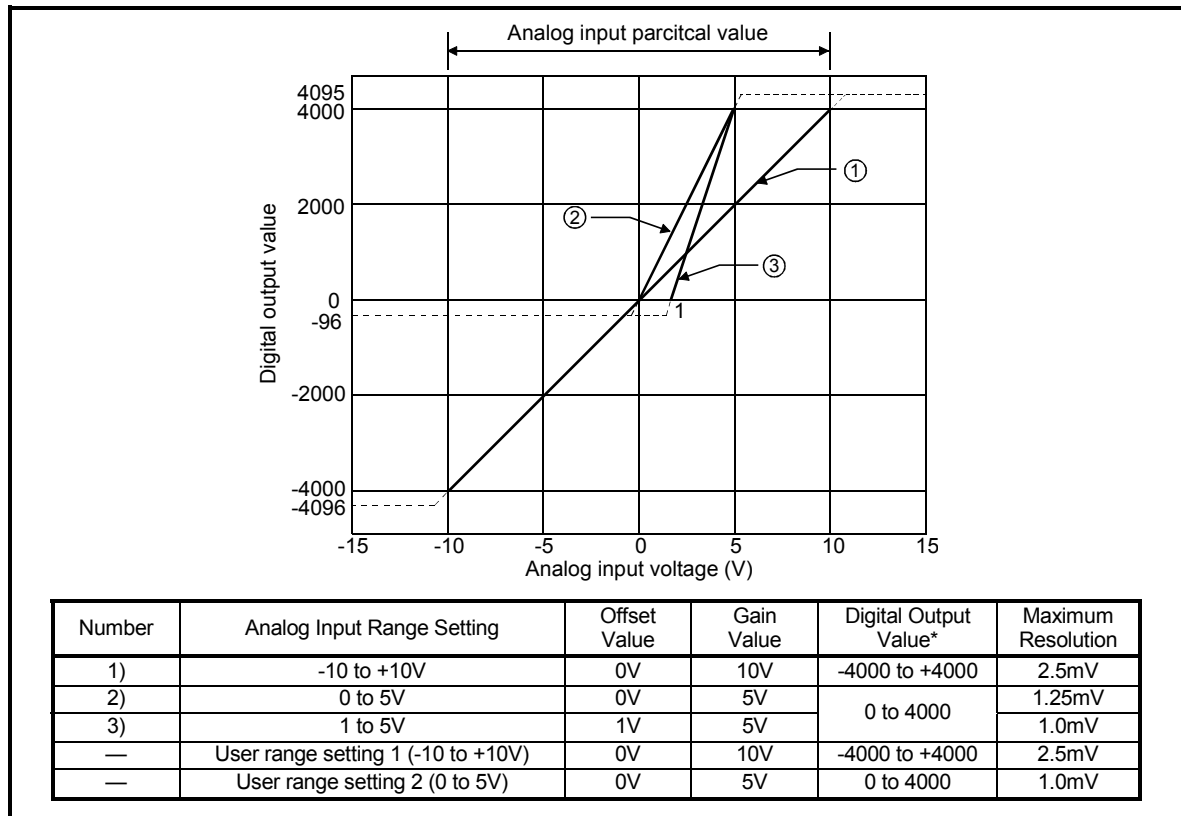

Fig. 3.1 Voltage Input Characteristic
- (1) Do not input more than $\pm 15V$. The element may be damaged.
- (2) If the analog input provided corresponds to the digital output value* beyond its range, the digital output value is fixed to the maximum or minimum.
- (3) Within the analog input and digital output scopes of each input range, the maximum resolution and accuracy are within the performance specification range. Outside those scopes, however, they may not fall within the performance specification range. (Avoid using the dotted line part in Fig. 3.1.)
- (4) Set the offset and gain values of the user range setting within the range satisfying the following conditions.